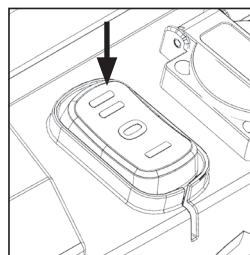

FIG. 2
- Now switch the rocker switch to setting II - Vacuum cleaner is in the standby mode. (**Fig. 2**)